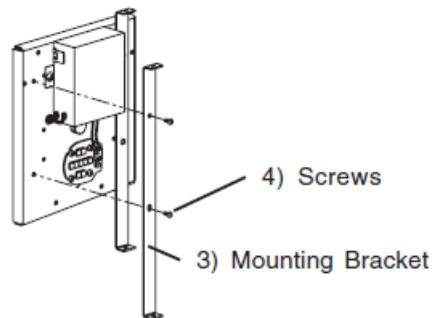

Fig 6
1. Install Mounting Brackets (3) by inserting Screw (4) through hole in mounting bracket and secure to housing. Install second screw through slot in bracket and secure to housing. See Fig 6.